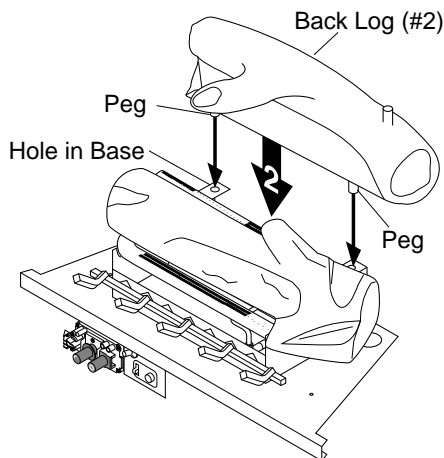

Figure 23 - Installing Back Log (#2)
2. Locate pegs on the bottom of back log (#2). Slide these pegs into the holes in the grate base behind the burner (see Figure 23).